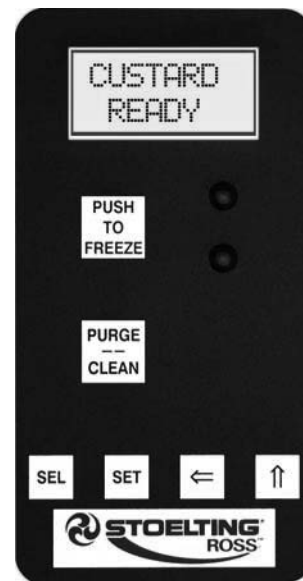

Figure 3-4 Custard Mode
- G. When the display reads CUSTARD READY, the freezing cylinder is at the correct temperature (Fig. 3-4).